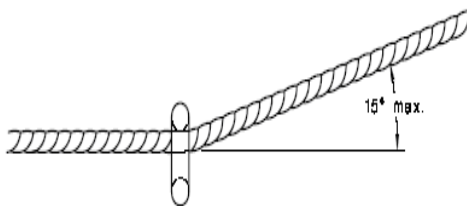

Figure 7 Direction change at an intermediate anchorage
- The horizontal deviation of the line at any intermediate support (see Figure 7), is not to exceed 15°.